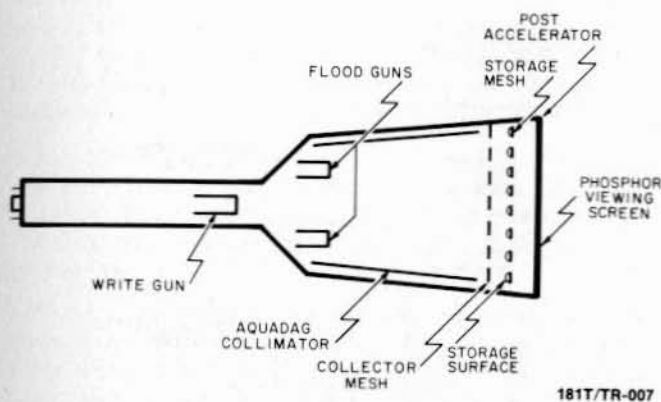

Figure 4-2. Simplified Storage Construction
**4-15. STORAGE PRINCIPLES.** The Model 181T/TR storage CRT consists of a conventional electron gun with deflection plates (write gun), an aluminized phosphor viewing screen, two flood guns, flood-beam collimator, collector mesh, and a storage mesh as shown in figure 4-2.